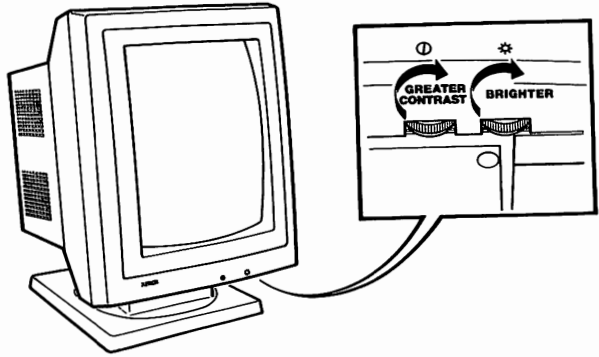

Figure 1-24. Location of brightness and contrast controls.
- If you have a full-page display, they will be located at the front of the unit, as shown in Fig. 1-24.